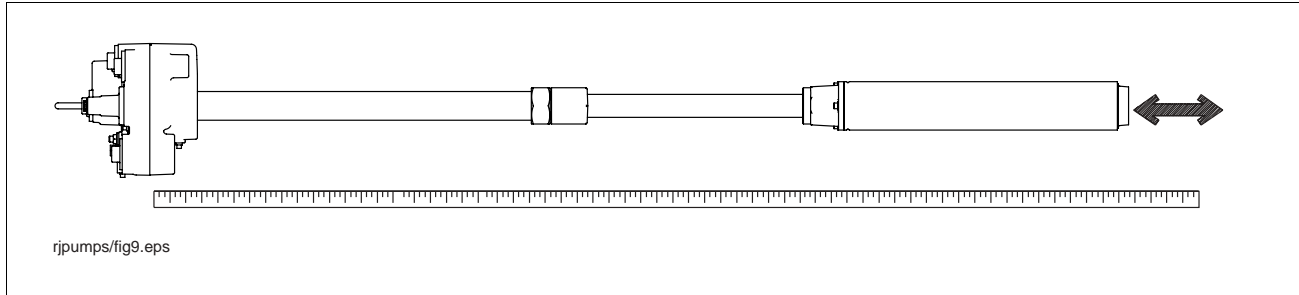

Figure 11. Adjusting pump length
- Referencing Figure 11, pull the UMP end until the distance between the bottom of the manifold and the bottom of the UMP is 5 inches (125 mm) (15 inches [381 mm] for floating suction) shorter than the distance measured in step 2.